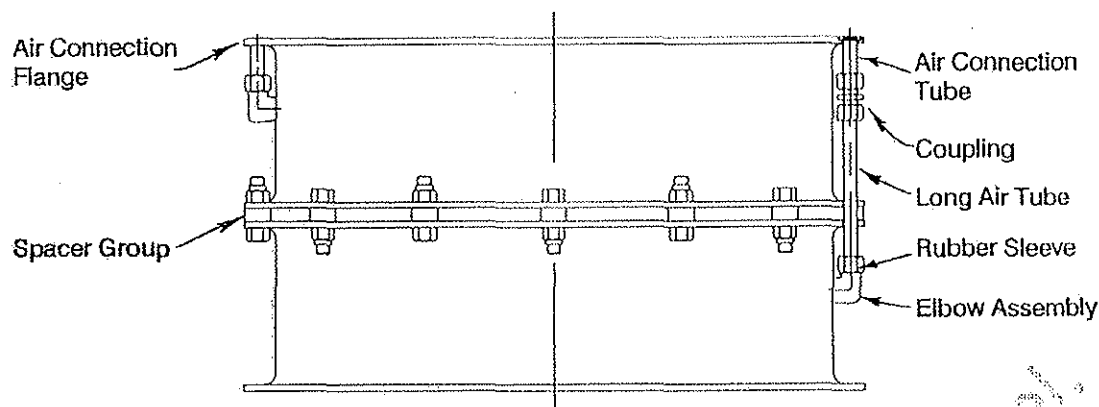

Fig. 11
- 4.3.2 Disassemble the long air tube group. See Figure 11.